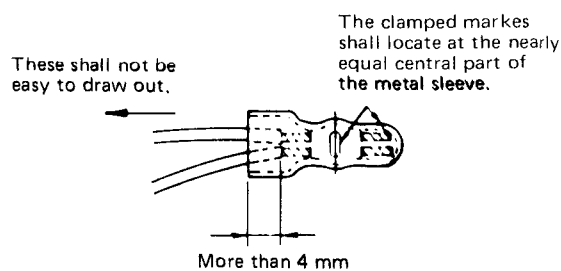

Fig. 31
5. After solderless securing, check the following as shown in Fig. 31.